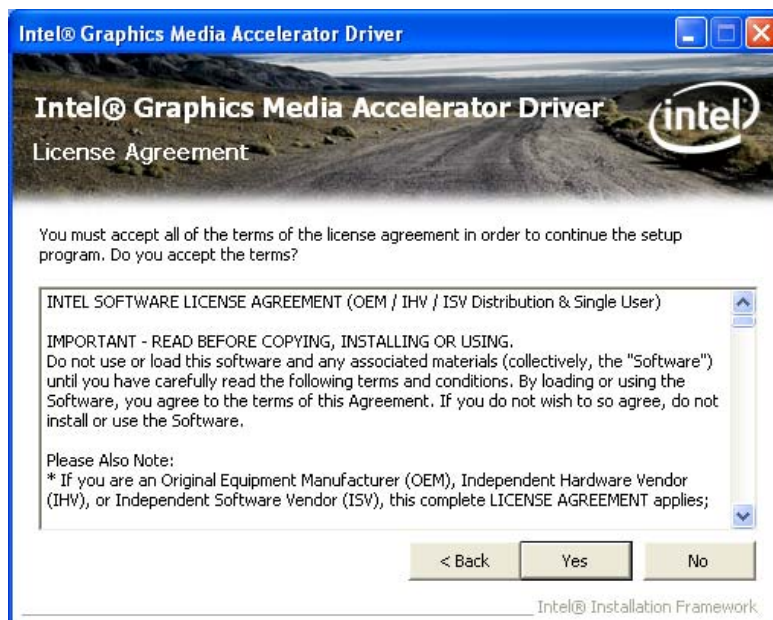

Figure 6-10: VGA Driver License Agreement
Step 10: The **License Agreement** in **Figure 6-10** appears.